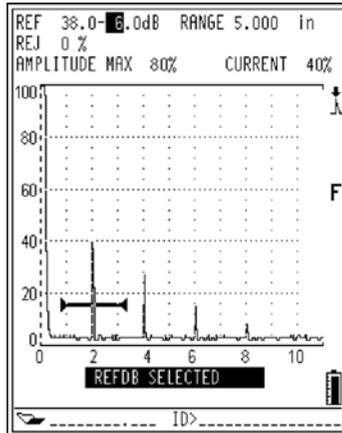
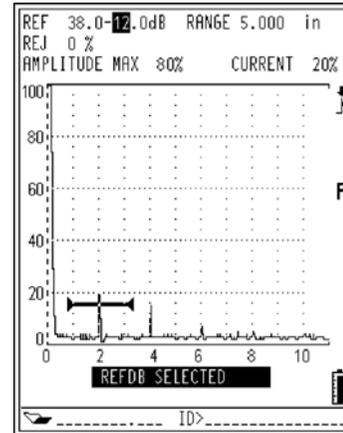

Figure 4.26
Figure 4.27
3. Set the Reference Level to record the amount of gain needed to bring the signal to this height (in this example 80%). This will allow you to vary gain in 6dB increments. To do this, press **[2nd F] [dB]** and then **[dB]** again to position the marker to the left of the decimal point as shown in Figure 4.26. This will allow you to add or subtract gain in 6dB increments using the slewing keys.
4. Now reduce gain by 6dB; this should bring the amplitude of this signal to 40% FSH (Figure 4.26). Removing another 6dB of gain should cause the amplitude of the signal to drop to 20% FSH (Figure 4.27). The Reference gain should now read X.X dB - 12dB. Remove another 6dB and the amplitude should read 10% FSH. Finally, after removing 6dB a final time, the amplitude should read 5% FSH.